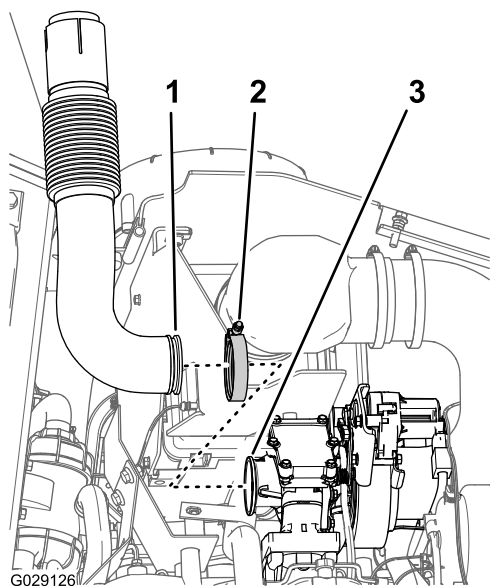

Figure 11
5. Remove the flange clamp that secures the flange of the turbocharger-exhaust pipe to the outlet flange of the turbocharger and remove the exhaust pipe from the machine (Figure 11).